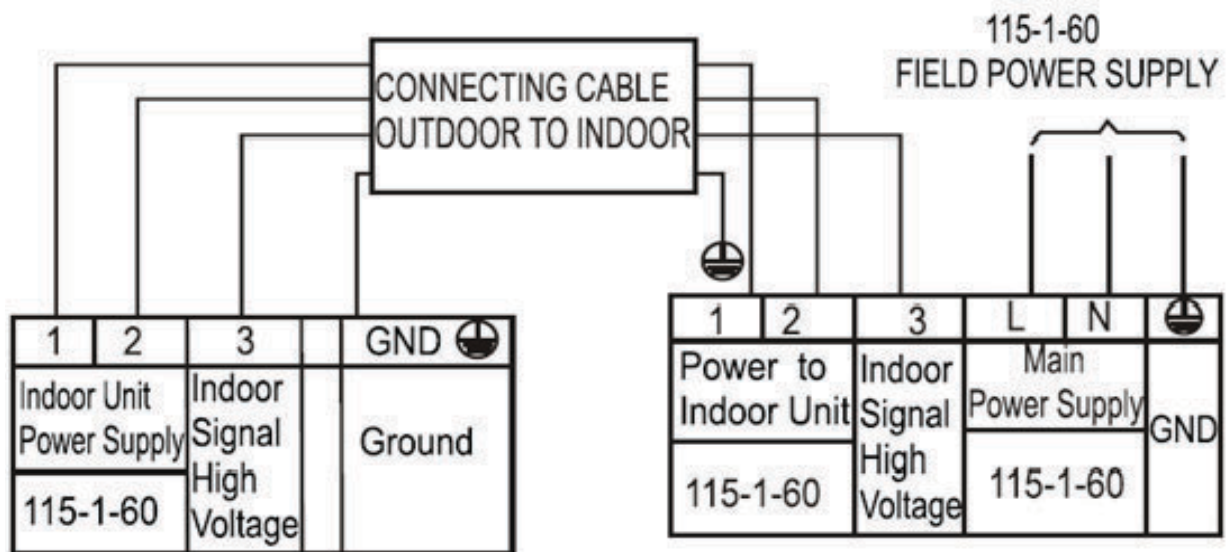

Fig. 3 —9k - 12K (115V Only)
2. All connections between the indoor and outdoor units must be made as shown in Figures 3, 4. The connections are sensitive to polarity and will result in a fault code.